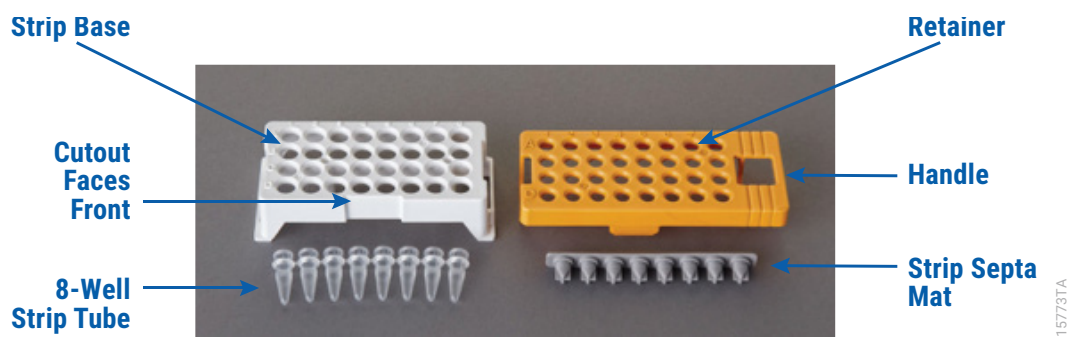
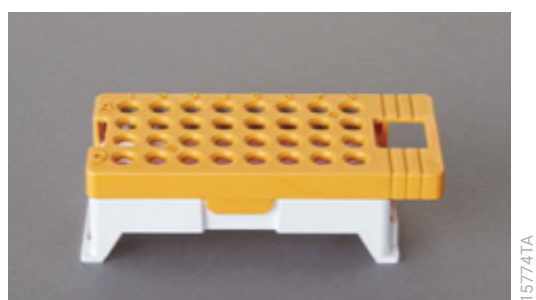

Figure 1. Assembling the Spectrum Compact Strip Base and Retainer.
Figure 2. Assembled Spectrum Compact Sample Cartridge.
Samples prepared in 8-well strip tubes are assembled into the strip base and retainer (Figure 1) to form the sample cartridge (Figure 2), which can be loaded onto the Spectrum Compact CE System. Samples are injected in groups of four, such that one 8-well strip tube can be used for two injections. Each 8-well strip tube corresponds to one lane (A, B, C or D) of the sample cartridge. Samples are injected in groups of four across a lane (not by column). For example, samples in well positions A1 through A4 are injected together, followed by samples in well positions A5 through A8 for the second injection. This pattern is then repeated for samples in lanes B, C and D. Refer to the *Spectrum Compact CE System Operating Manual* #TMD058 for information on changing the order of injections during run setup.
1. Place the 8-well strip tube(s) with the Strip Septa Mat, 8-well, into the strip base (Figure 1). When using fewer than 4 strips in the run, you can place the strips in any lane.
2. To complete the assembly, place the retainer over the strip(s) in the strip base, aligning the lane names A to D and well numbers 1 to 8 on the retainer to those on the strip base and pressing until the retainer clicks into the strip base (Figure 2).